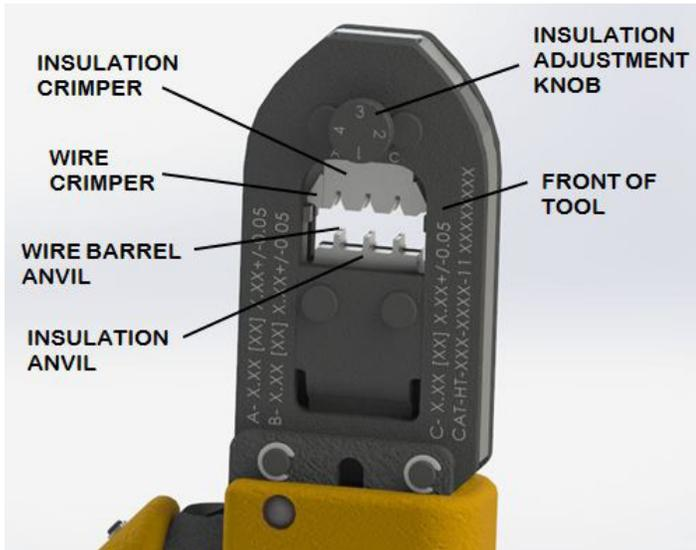

Figure 1
Straight Action Hand Tool CAT-HT-383-2426-11 (Figure 1) was designed to crimp CC83 (ISSM and ISDM Series) contacts.
5. Check the clearance between the bottoming surfaces of the wire crimper and the wire anvil. See Figure 1. If the clearance is 0.025 mm [.001"] or less (on at least two of the bottoming surfaces), the ratchet is satisfactory. If clearance exceeds 0.025 mm [.001"], the ratchet is out of adjustment and must be repaired.